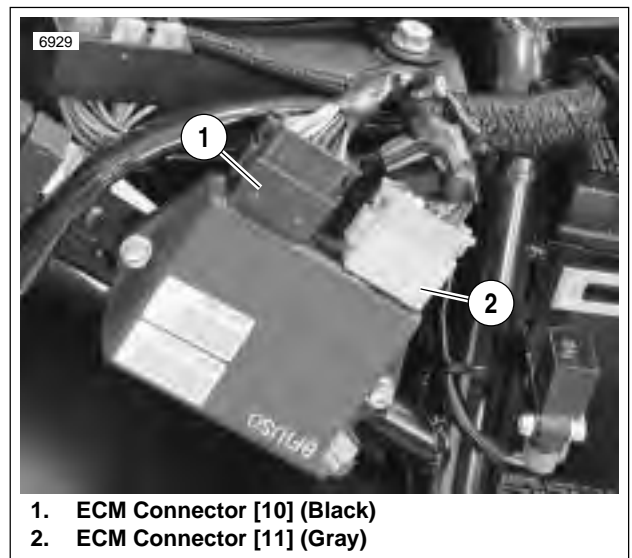

Figure 4-22. Electronic Control Module
1. See Figure 4-22. If the lamp goes off when the black ECM connector [10] is unplugged, the BK/Y wire is **not** shorted to ground.